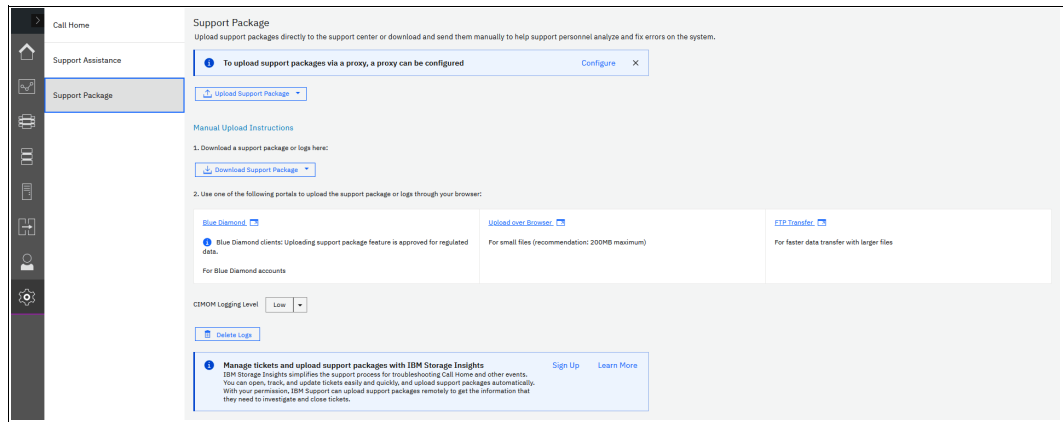

Figure 13-63 Support Package window
1. Select **Settings** → **Support** and then the **Support Package** tab (see Figure 13-63).